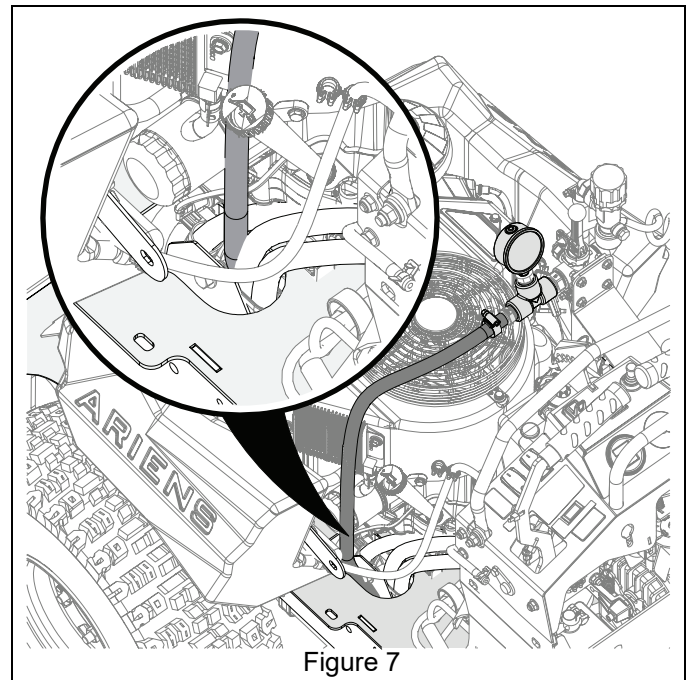

Figure 7
- Route hose from pressure gauge down and through opening on left side of engine. Continue to route hose so it rests between two hydraulic hoses and parking brake rod on inside of frame. See Figure 7.